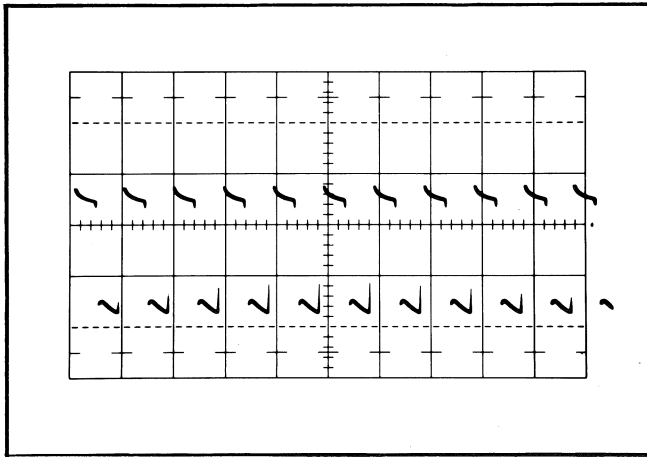

Fig. 5-3. Chopping waveform with transients blanked.
- Check—Rising and falling portions of waveform are blanked. See Fig. 5-3.